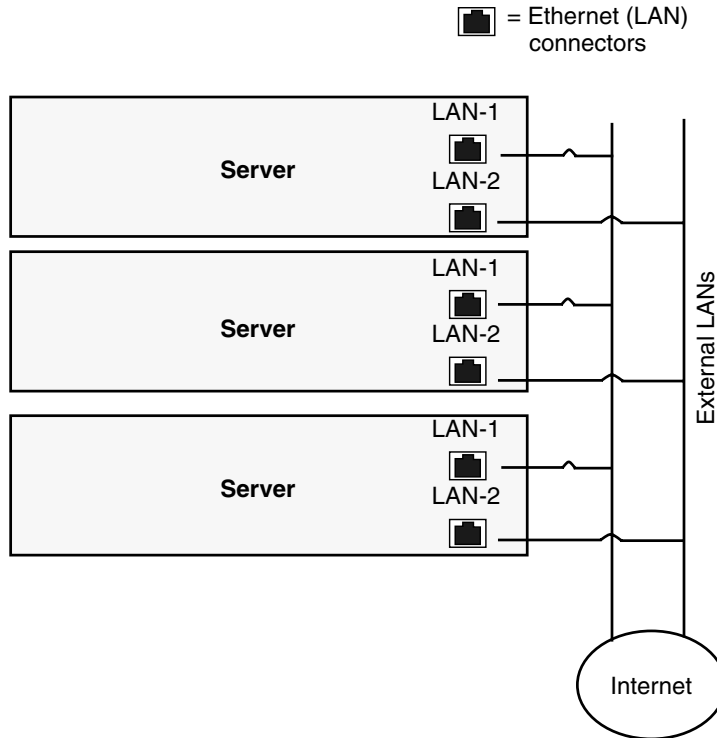

FIGURE 1-15 Interconnecting Servers
FIGURE 1-15 shows how to connect multiple servers, using the platform Ethernet connectors. LAN-1 can only be used for connecting to the internet. Remote server management is directed over LAN-2 if you have the optional service processor (SP) card installed.